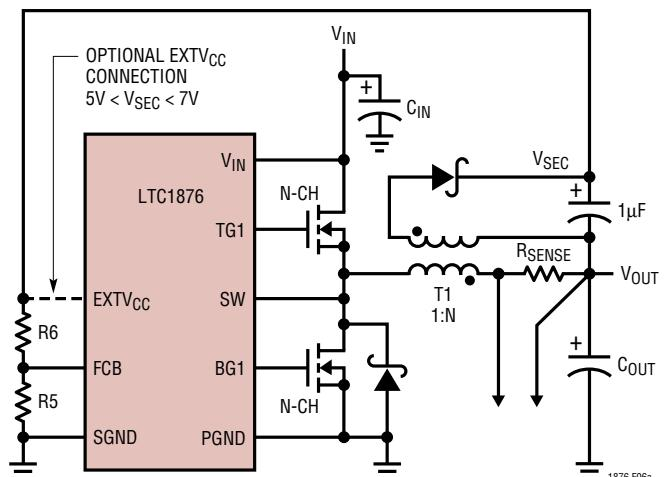
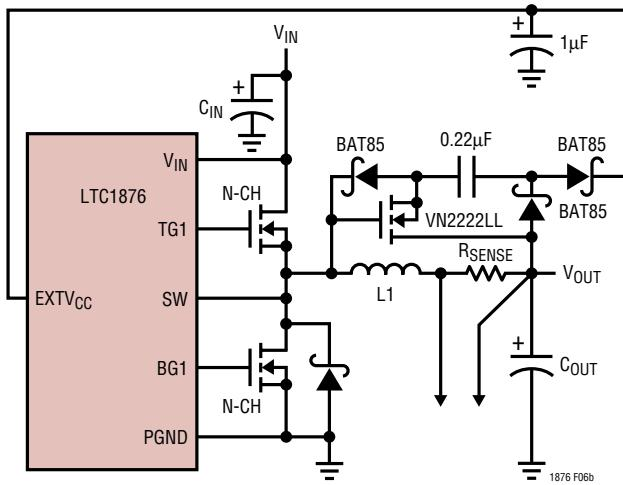

Figure 6a. Secondary Output Loop and EXTV_{CC} Connection
Figure 6b. Capacitive Charge Pump for EXTVcc
4. EXTV_{CC} Connected to an Output-Derived Boost Network. For 3.3V and other low voltage regulators, efficiency gains can still be realized by connecting EXTV_{CC} to an output-derived voltage that has been boosted to greater than 4.7V. This can be done with either the inductive boost winding as shown in Figure 6a or the capacitive charge pump shown in Figure 6b. The charge pump has the advantage of simple magnetics.
The secondary output voltage V_{SEC} is normally set as shown in Figure 6a by the turns ratio N of the transformer: